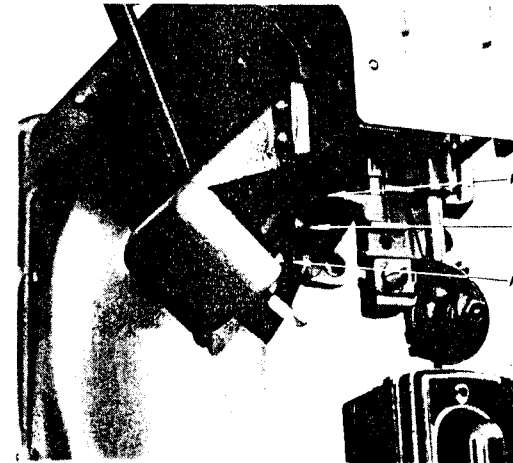

Fig. 16. Adjustments on Trimmer
To adjust the knife to the correct height, loosen the screw (K, Fig. 16) and raise or lower
A small adjustment of the height of the knife cutting edge can be made to accommodate the varying thicknesses of the leathers by turning the screw (M, Fig. 16) in or out, as required.
knife toward you or from you, loosen the screw (L, Fig. 16) and move the knife bracket as required, then tighten the screw (L).